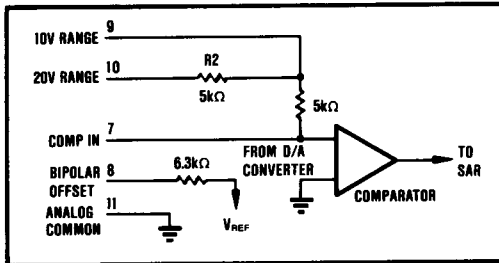
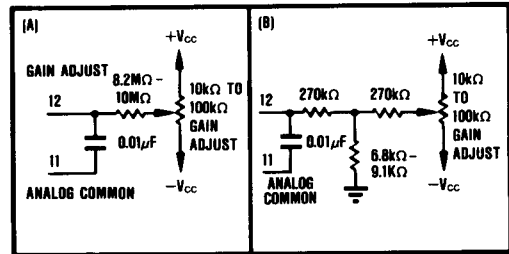

FIGURE 3. ACD804 Input Scaling Circuit.
FIGURE 6. Two Methods of Connecting Optional Gain Adjust.
input range as indicated by Table II. The input circuit architecture is illustrated in Figure 3. Use of external padding resistors to modify the factory-set input ranges (such as addition of a small external input resistor to change the 10V range to a 10.24V range) will require matching of the external fixed resistor values to individual devices, due to the large tolerance of the internal input resistors. Alternatively, the gain range of the converter may be easily increased a small amount by use of a low temperature coefficient potentiometer in series with the analog input signal or by decreasing the value of the gain adjust series resistor in Figure 6.
**GAIN**—Connect the gain adjust potentiometer as shown in Figure 6. Set the input voltage to the nominal plus full-scale value minus  $3/2$ LSB. Once again referring to Table I, this value is  $+10V - 7.32mV$  or  $+9.99268V$  for the  $-10V$  to  $+10V$  range. Adjust the gain potentiometer until the output code is alternating between  $000_H$  and  $001_H$  with an approximate 50% duty cycle. As in the case of offset adjustment, this procedure sets the converter end-point transition to a precisely known value.